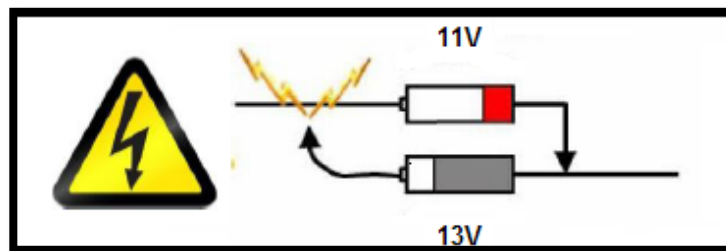

Figure 6-3: Risk of Excessive Current Flow and Arcing
4. Ensure that the voltages of each battery module are the same prior to connecting the batteries in parallel. A voltage differential can cause arcing and a large surge of current. This sudden energy transfer can be extremely dangerous and the resulting circulating current into the lower voltage battery may over-charge any cells in a battery module which are close to fully charged, as shown in Figure 6-3 above.